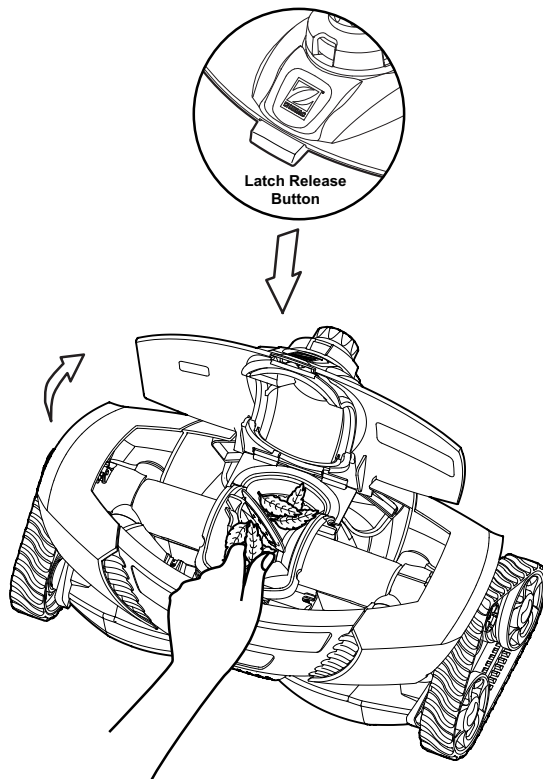

Figure 10
1. Push the latch release button on the top of the cleaner (Figure 10).